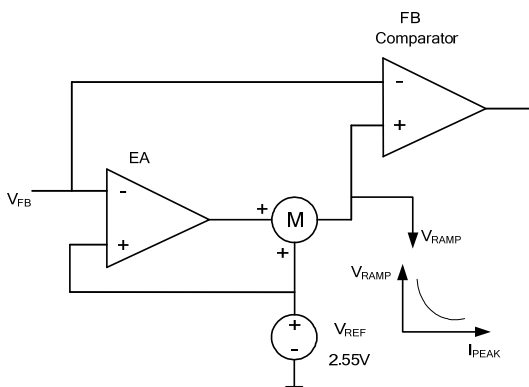

Figure 4: EA and Ramp Compensation
The MP173A has an internal error amplifier (EA) compensation loop (see Figure 4). It samples the feedback voltage $6\mu\text{s}$ after the MOSFET turns off, and regulates the output based on the 2.55V reference voltage.
An internal ramp compensation circuit improves the load regulation. An exponential voltage signal is added to pull down the feedback comparator's reference voltage (see Figure 4). The ramp compensation is a function of the load conditions: the compensation is about the $1\text{mV}/\mu\text{s}$ under full-load conditions. The compensation increases exponentially as the peak current decreases.